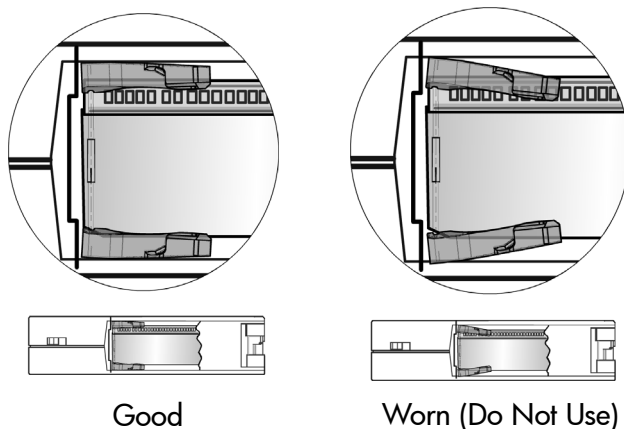

Figure 75 SDLT buckle leaders
- Visually inspect the tape for a broken, unseated, or misaligned tape leader (Figure 75 on page 95).
- Check the leader position by pressing in the door lock to release the cartridge door. While pressing in the door lock, push the tab down to open the door. Be careful not to touch the tape after opening the door. Ensure that the leader is in the correct position (Figure 75 on page 95).